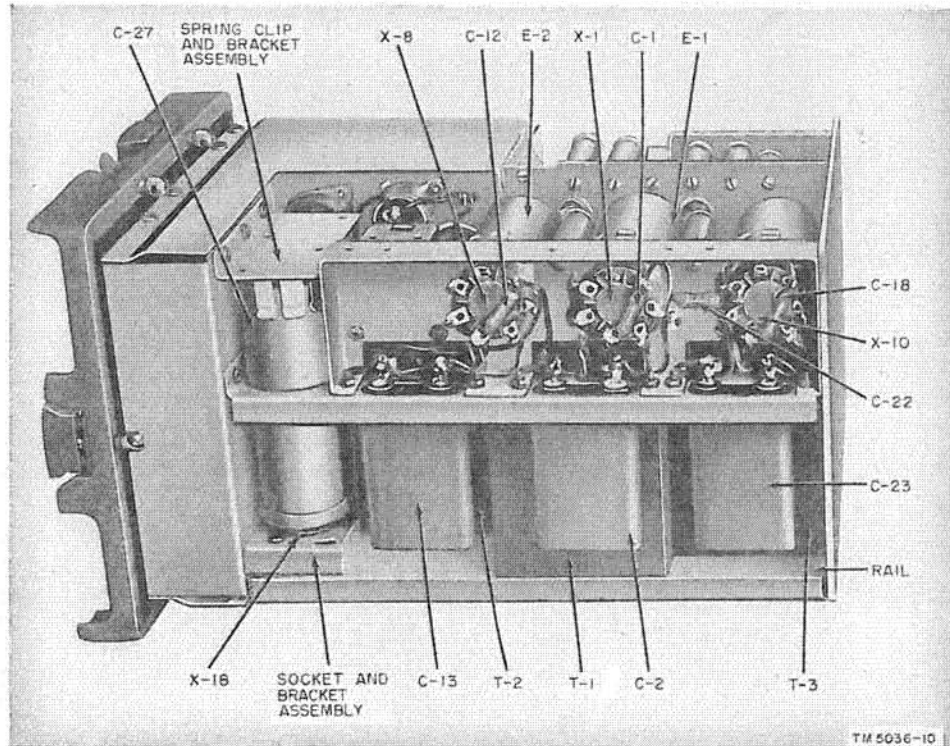

Figure 67. Power supply PP-109/GR, bottom view of chassis.
d. VIBRATORS. The three vibrators (E-1, E-2, and E-3) are located on the right-hand side of the power supply chassis (fig. 67). To remove a vibrator, pull straight upward without jiggling. If necessary, use a small screw driver to pry the vibrator out of its socket but take care not to spread the ring clip at the base of the vibrator.